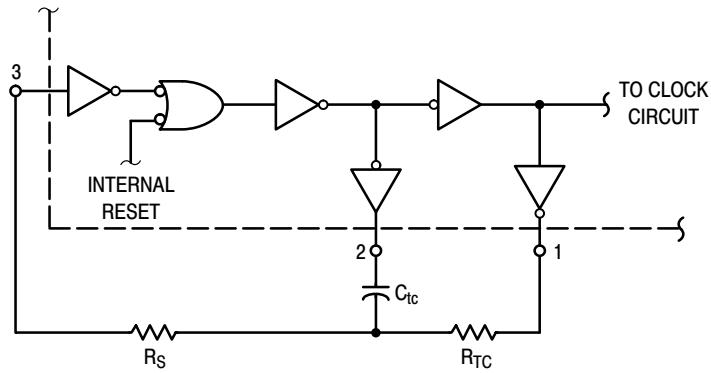

Figure 3. Oscillator Circuit Using RC Configuration
4. When using the on chip oscillator the total supply current (in μ Adc) becomes: $I_T = I_D + 2 C_{tc} V_{DD} f \times 10^{-3}$ where I_D is in μ A, C_{tc} is in pF, V_{DD} in Volts DC, and f in kHz. (see Fig. 3) Dissipation during power-on with automatic reset enabled is typically 50 μ A @ $V_{DD} = 10$ Vdc.
The RC oscillator as shown in Figure 3 will oscillate with a frequency determined by the external RC network i.e.,